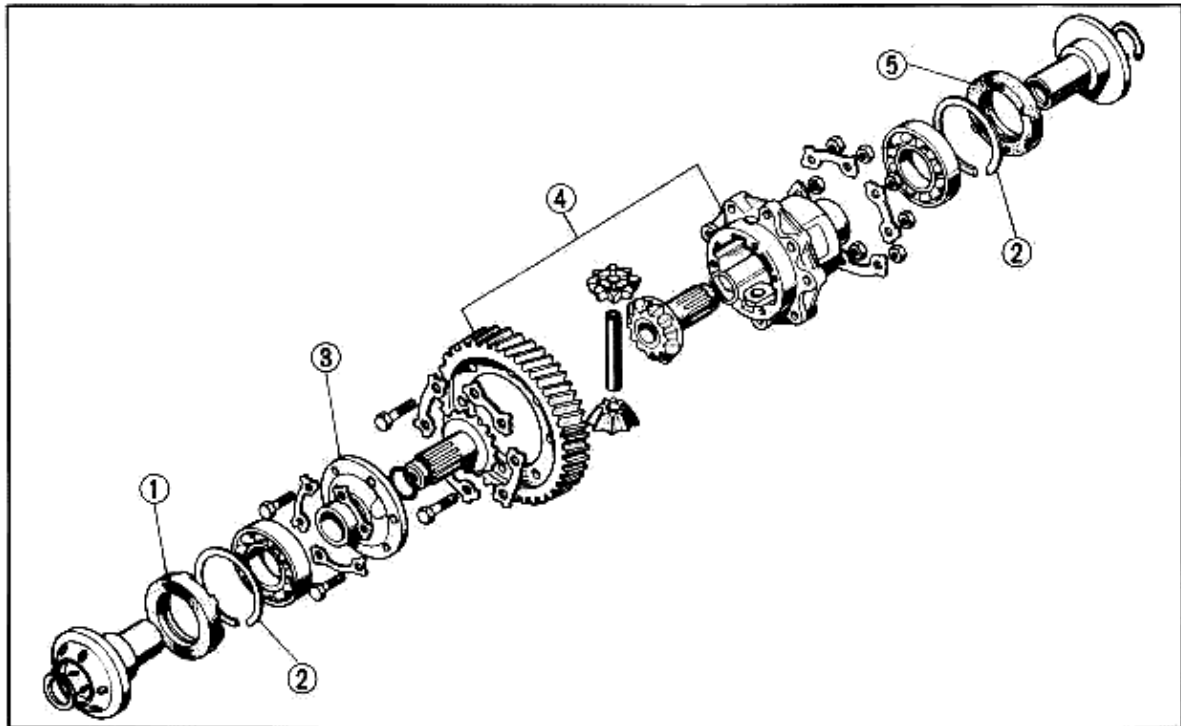

Fig. 7-1 ① Oil Seal, L ③ Differential Gear Case Cap ⑤ Oil Seal, R
- * The differential may be disassembled and assembled by referring to Fig. 7-1.